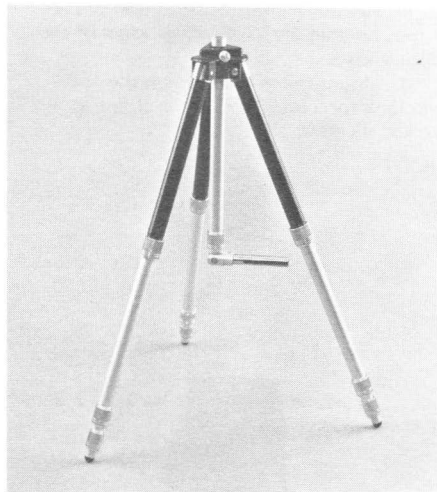

Figure 3-12. Tripod arrangement for muffler measurements.
k. Orient the knuckle so that the sleeve is parallel to the ground, aimed away from the legs (Figure 3-12).